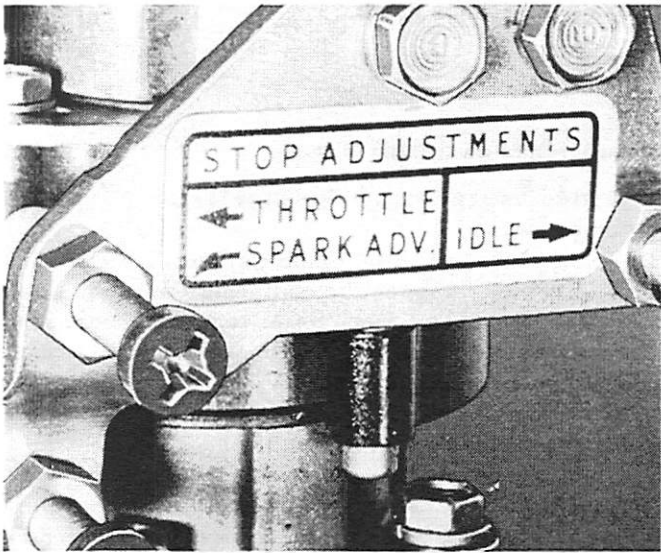

Figure 2. Spark Advance Adjustment
11. Hold magneto in this position and adjust spark advance stop screw to just touch pilot assembly and tighten lock nut. (Figure 2)
9. Retard magneto against idle stop screw. (Figure 2)
2. Adjust "throttle stop" screw on stop bracket (Figure 2) to allow full throttle shutter opening but not to allow throttle shutters to act as a stop or the carburetor cluster to strike carburetor filter bowl.
2. Idle engine and adjust "idle speed" screw on stop bracket (Figure 2) so that engine idles at 500 RPM in forward gear.